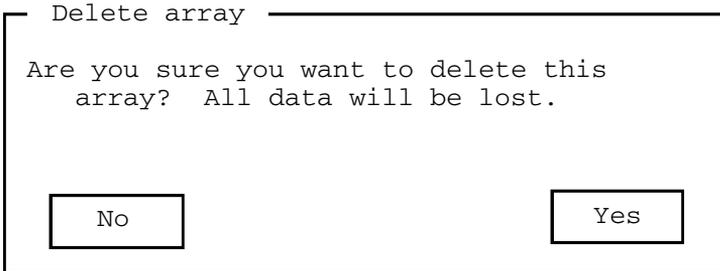

Figure 2-12 Delete Array Window
- 2 A warning message appears, as shown in Figure 2-12. Select **Yes** or **No**. The array configuration for the devices is not deleted until you select **File > Set System Config** or exit SMOR and choose to save your changes.